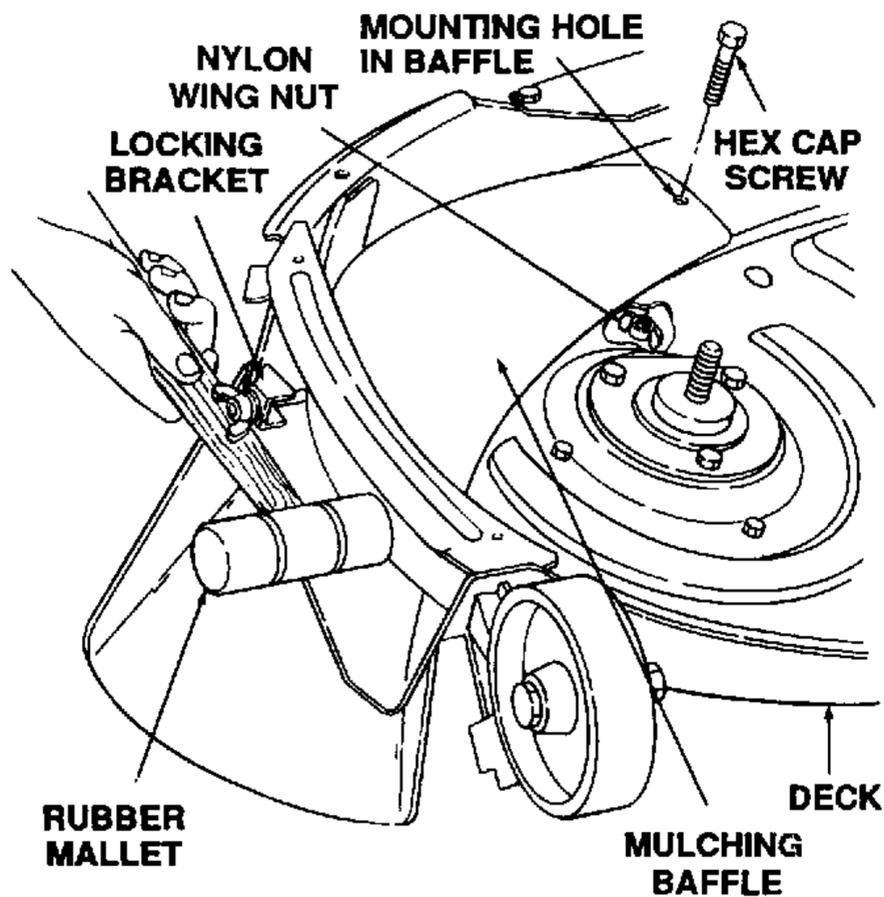

Figure 7-6. Seating the Baffle Assembly.
- Using a rubber mallet to tap the side baffle through the discharge opening (see Fig. 7-6), alternately tap the rear area of the baffle and re-tighten the wing nut (or hex nut, if used). Repeat until the baffle is completely seated, and the inner mounting hole of the baffle aligns with the hole in the deck.
- Insert the hex cap screw (see Fig. 7-6) from the underside of the deck and secure with the second wing nut.